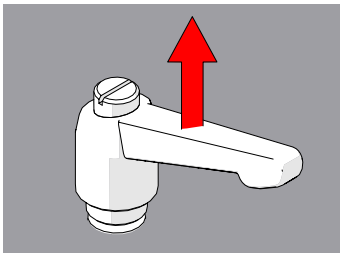

Fig. 27 - Pull ratchet handle
1. Pull the ratchet lever away from the base to which it is connected (Fig. 27).